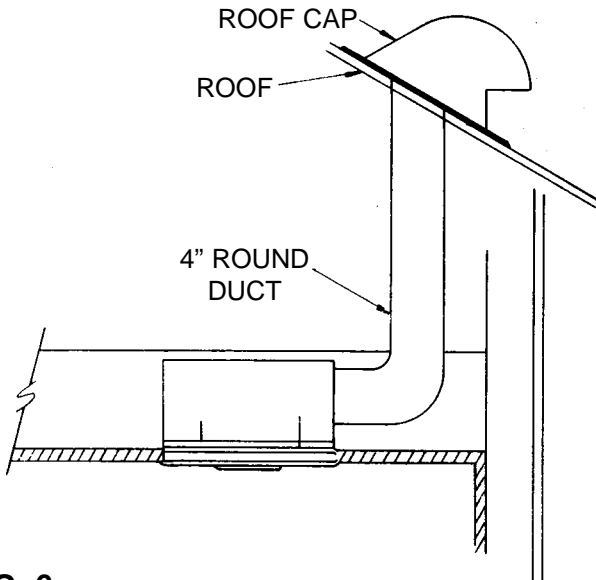

FIG. 6
5. Run four inch round duct from fan air discharge outlet to wall cap or roof cap. See Figs. 6 & 7.
2. Refer to wiring diagrams for wiring and Fig. 6 & 7 for duct work.
7. Run four inch duct from discharge outlet to roof jack or wall cap. See Figs. 6 & 7.